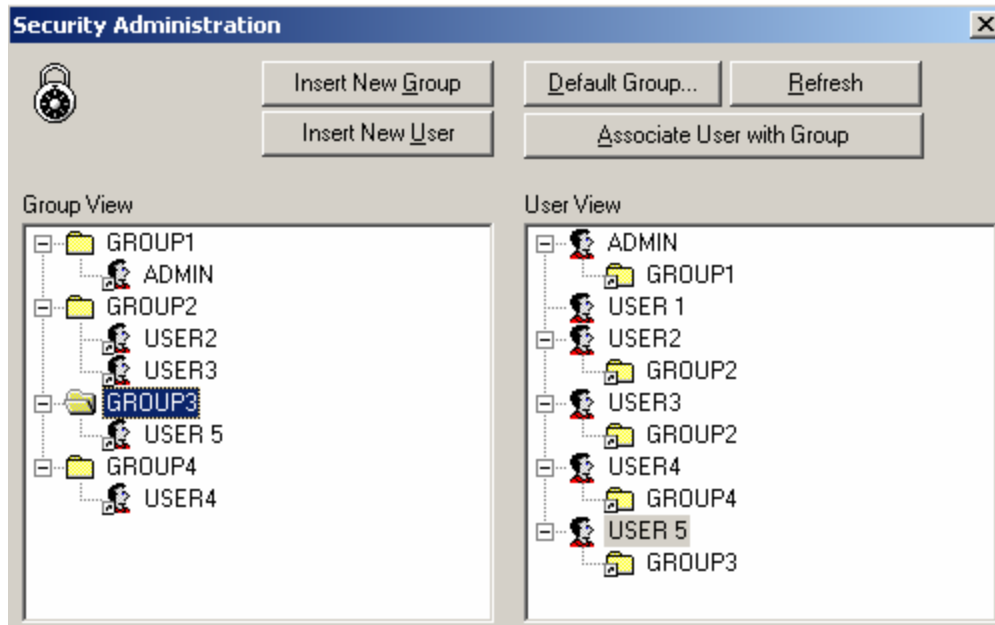

Figure 9.48. Security Administration Console
2. The **Security Administration** console appears, as shown in **Figure 9.48**. The configuration console consists of two separate panes. Each pane has a tree control. The left tree is the **Group View**. Here the root nodes are groups, and the child nodes are the users that belong to the group. The right tree is the **User View**, in which the root nodes are users, and the child nodes are the groups that have been assigned to each user. Some example groups and users are shown in the figure below.